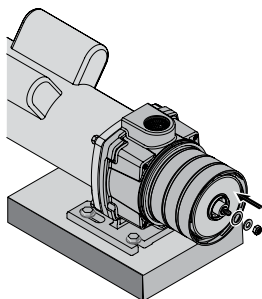

Figure 11
7. Reinstall the toothed washer, the flat washer, and the impeller nut (in that order – Ref. Nos. 12,13,14) onto the motor shaft (see Figure 11). Hold the shaft and tighten the impeller nut to 10 ft.-lbs. torque.